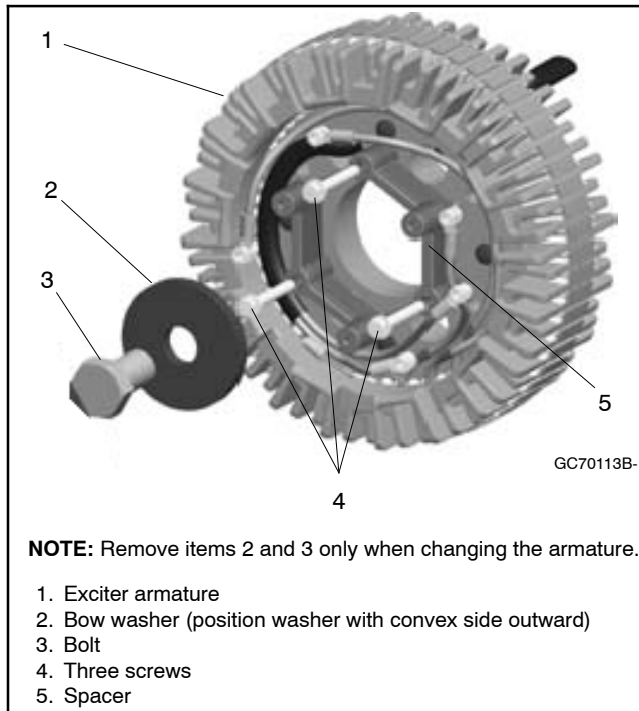

Figure 5 Spacer Removal
- 3.4 Remove the spacer by removing the 3 screws. See Figure 5. The existing spacer and 3 screws will not be reused. Remove the bow washer and bolt only when changing the armature.
- 4.4 If the armature was changed, secure the new exciter armature by reusing the existing bolt and bow washer. See Figure 5. Torque to 194 Nm (143 ft. lbs.).